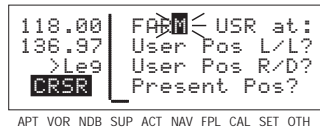

Figure 4-81
3. Spell out the rest of the identifier using the right inner and outer knobs (figure 4-81).